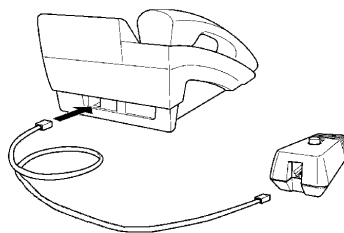

Figure 6-57: Attaching a Microphone to a Multiline Terminal
1. Plug the microphone cord into the jack on the HFU-UA (WH) Unit as shown in *Figure 6-57: Attaching a Microphone to a Multiline Terminal*.